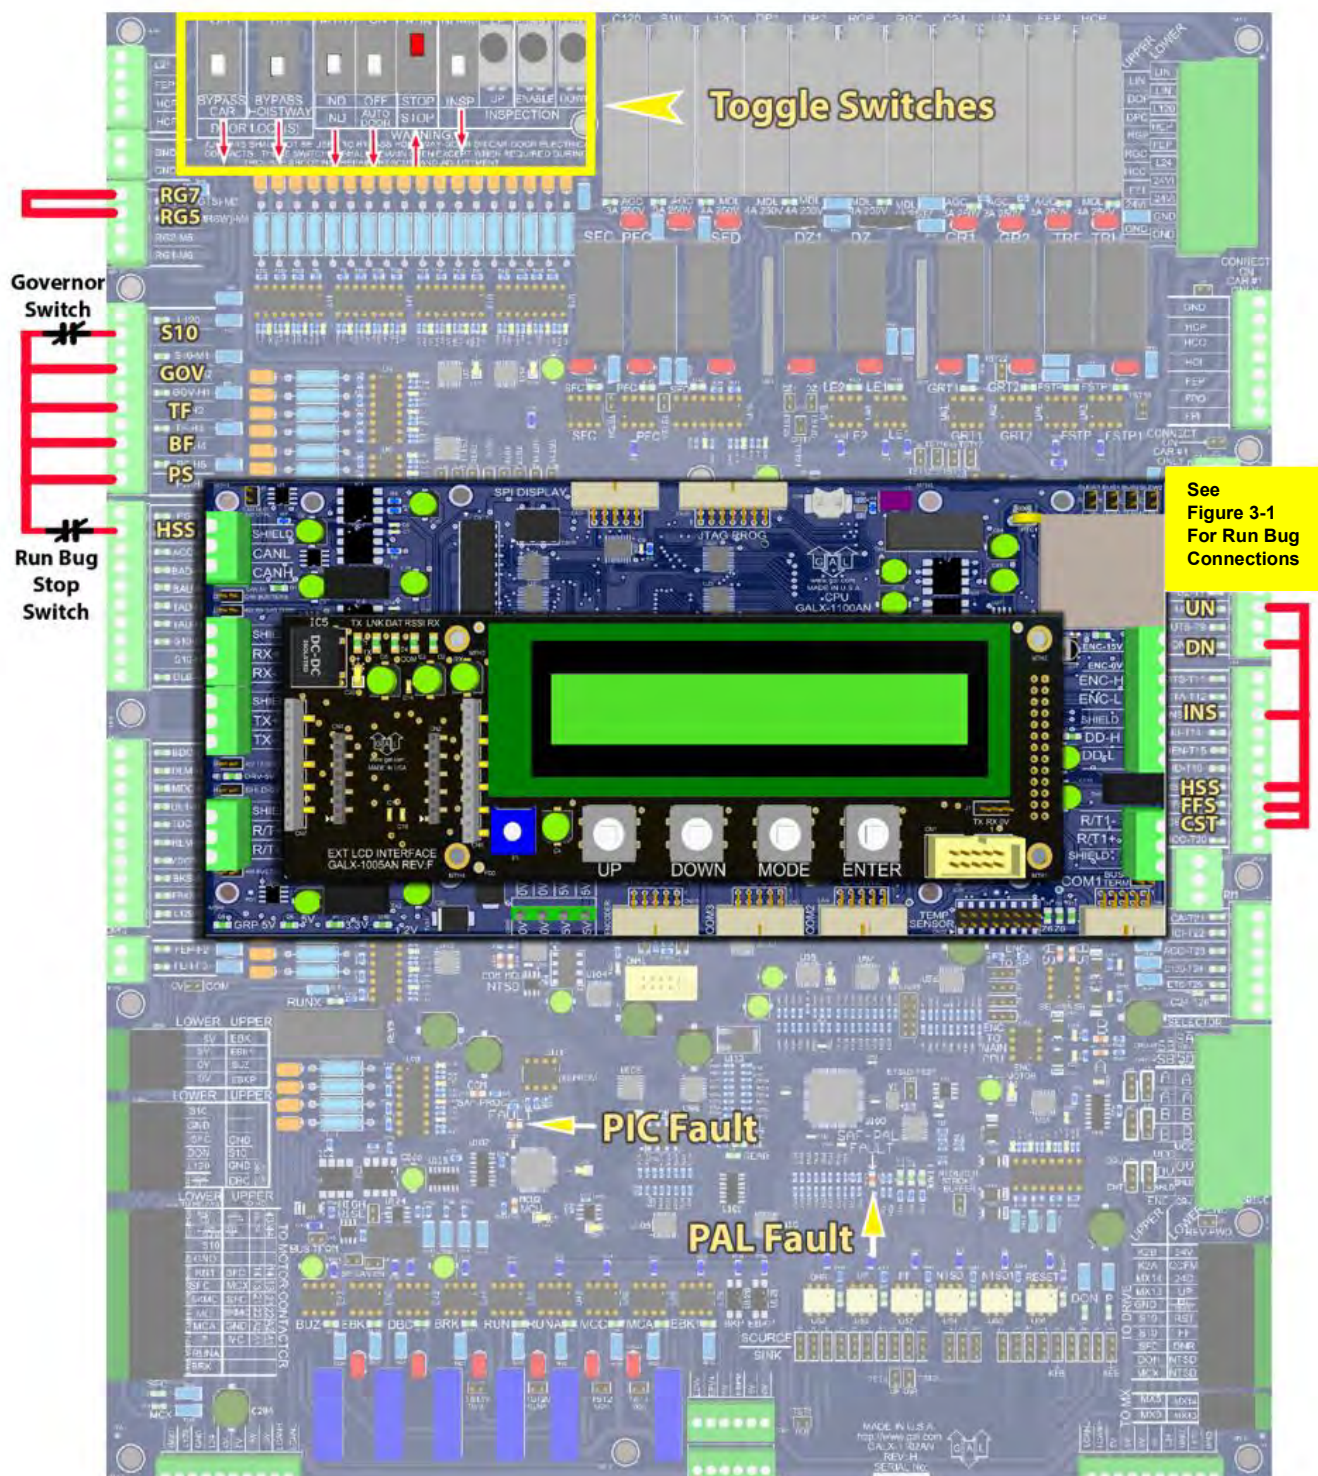

Figure 3-4: GALX-1102AN Main I/O
With Run Bug. See Figure 3-4
- 5) Set the toggles switches on the GALX-1102 Main I/O Board as show in Figure 3-4.
- 8) Verify the PIC and PAL fault LED's are off. See the GALX-1102AN Main I/O Board in Figure 3-4. If these LED's are on, refer to Section 04 Troubleshooting.